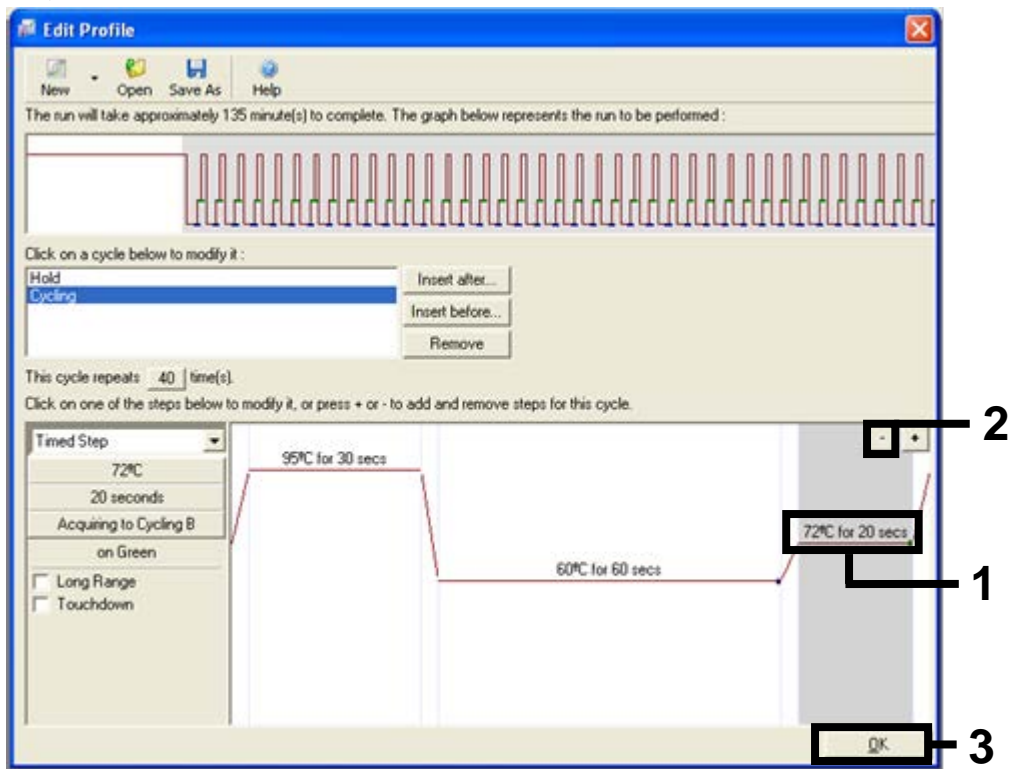

Figure 17. Removal of the extension step. 1 = Temperature and time parameter of third step of cycle, 2 = “-” button to delete step, 3 = “OK” button.
11. Highlight the third step and delete by clicking the “-” button. Click “OK” (Figure 17).